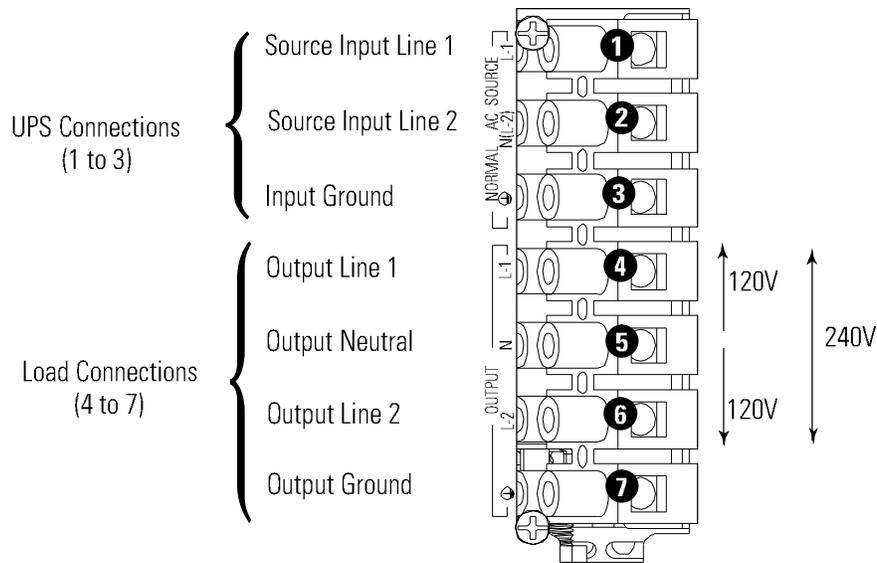

Figure 13. 9PXTFMR11 I/O Terminal Block
7. On the 9PXTFMR11 terminal block, wire the UPS connections 1-3 and attach the cable gland to the panel (see Figure 13 and Table 5).